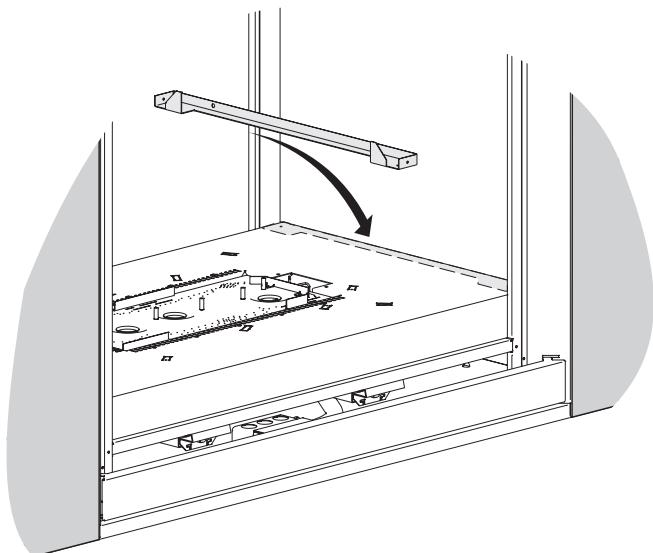

Figure 60
- The fiber or porcelain liners sit in front (NOT behind) of the brick brackets as shown in **Figures 60 and 61**.
3. Set the brick bracket against the firebox wall as shown in **Figure 60.**